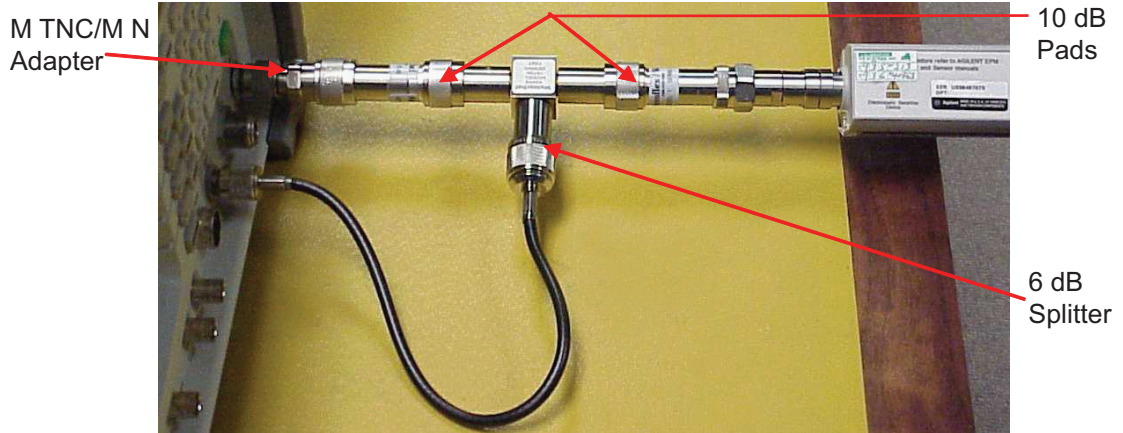

Fig. 4-22 ANT Port Amp Gain Calibration Setup
3.	Configure equipment. Refer to Fig. 4-22 as needed.